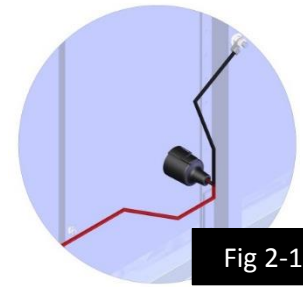

Fig 2-1
l. If the wire is installed directly in the nose plug. (See Fig 2-1)